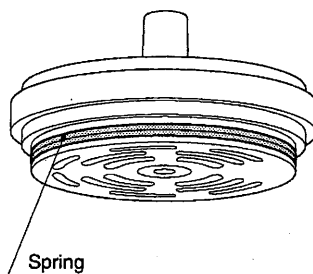

Fig. 32
- (1) Disassemble the 1st stage side spring to check its damage or wear.
- (2) Check the appearance of the 2nd stage side spring if there is no damage or wear. (Fig. 32)